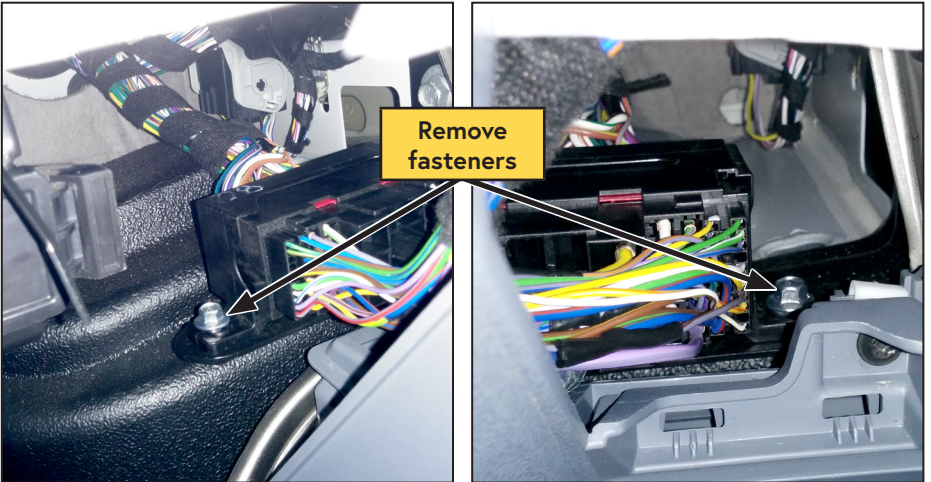

Figure 75 — Remove C210 connector
- Use an 8 mm socket to remove both the left and right fasteners holding the C210 connector (Figure 75).